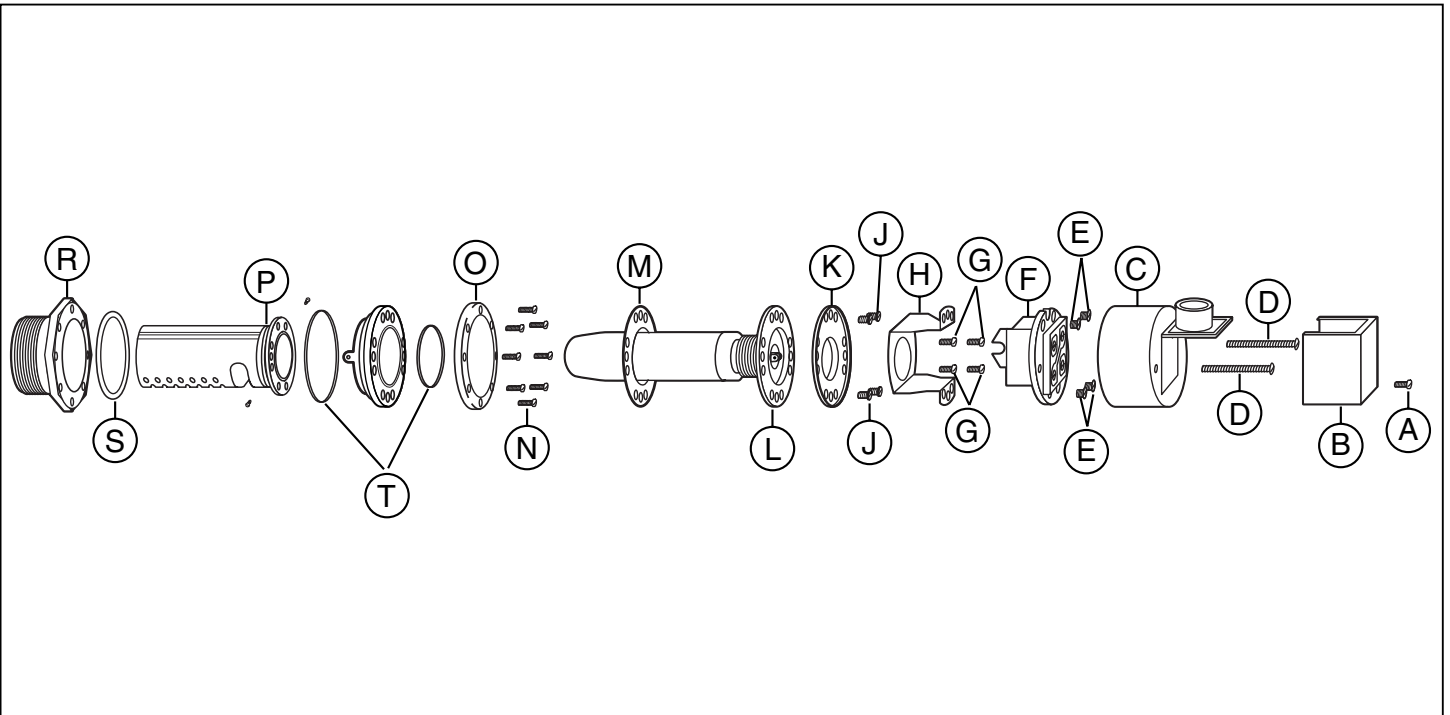

Figure 2
b. See figure 2. Remove eight (8) screws (N) and clamping ring (O). Mark position of float shield (P) with respect to barrel casting (R). Inspect and clean float shield (P). Clean the gasket surfaces, being careful not to scratch them. **NOTE:** On newer models the gasket has been replaced with square cut rings (items (T) in figure 2). Place gasket (S) over float shield (P) and insert the float shield (P) into barrel casting (R). Line up the marks that you applied above. Using clamping ring (O) and eight (8) screws (N) secure the float shield (P) to the barrel casting (R).